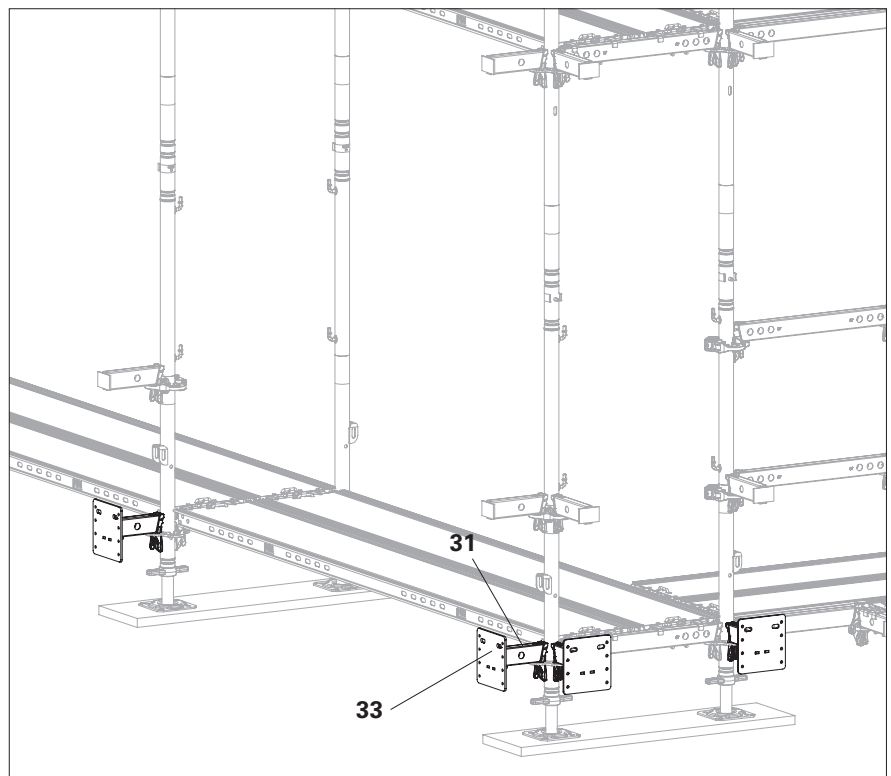

Fig. C3.05
1. Mount Multi-console Bracket CEB (33) in the basic position with Horizontal Ledger UH-2 25 (31) to the rosette of the corner post. (Fig. C3.05)